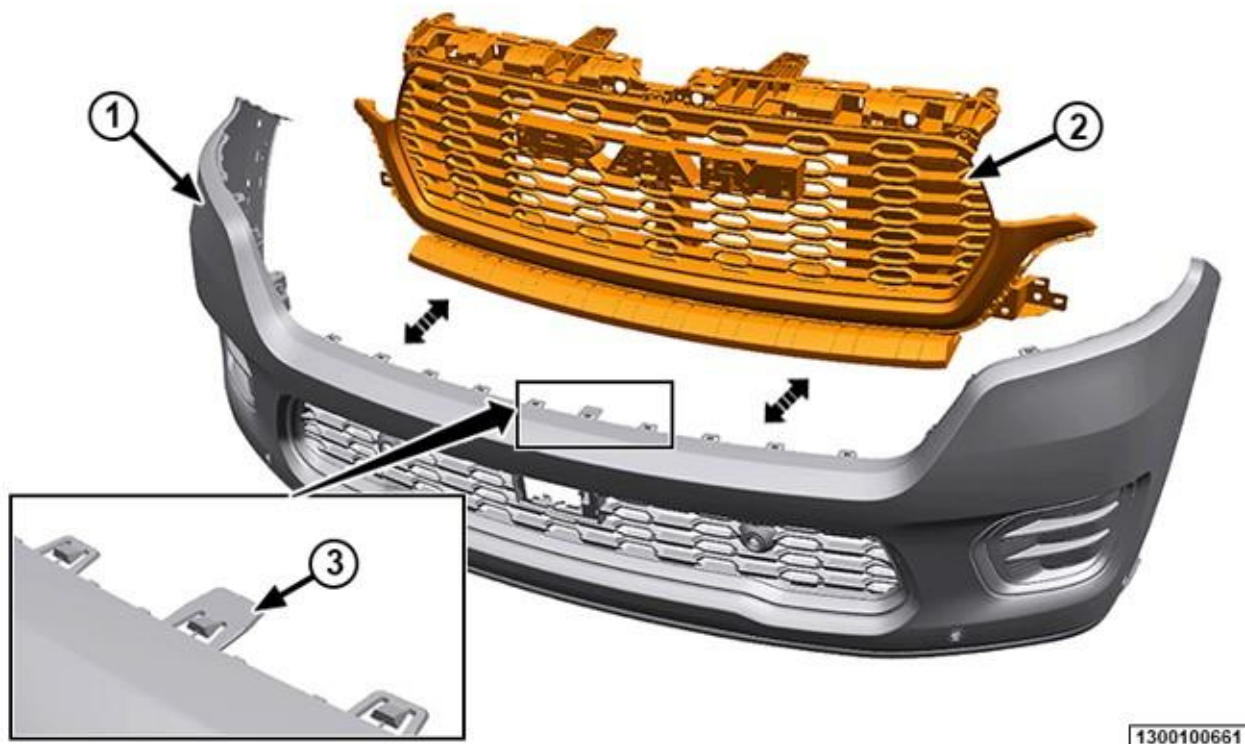

Figure B16 – Grille to Fascia Attachment
24. Using a trim stick, reach through the back of the grille and disengage the paddle clips to separate the grille from the fascia (Figure B16).
25. Install the bracket to the lower side of the grille carrier. Install the fasteners to secure the bracket (Figure B16).
38. With an assistant, position the fascia to the vehicle (Figure B16).
39. Install the fascia and verify the upper paddle clips are fully engaged to the grille (Figure B16).